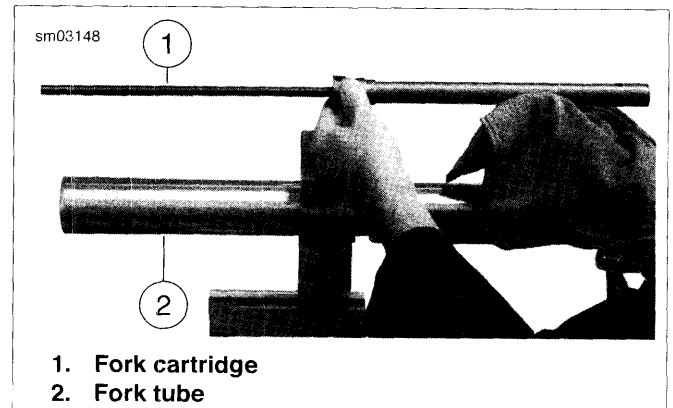

Figure 2-166. Install Fork Cartridge
3. See Figure 2-166. Using FORK HOLDING TOOL (Part No. HD-41177), mount fork assembly in vise.